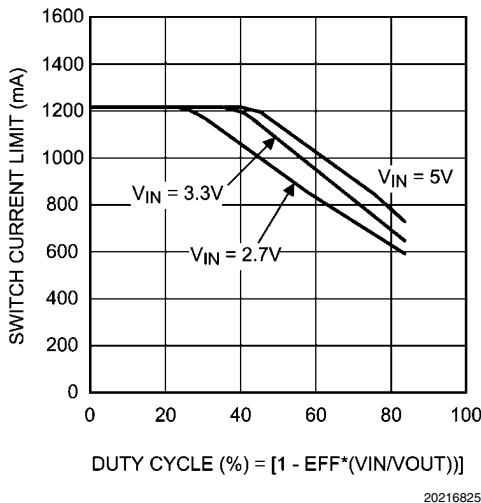

FIGURE 3. Switch Current Limit vs Duty Cycle
**Note 4:** Switch current limit is dependent on duty cycle. Limits shown are for duty cycles  $\leq 50\%$ . See Figure 3 in *Application Information – MAXIMUM SWITCH CURRENT* section.
The maximum FET switch current available before the current limiter cuts in is dependent on duty cycle of the application. This is illustrated in Figure 3 below which shows typical values of switch current as a function of effective (actual) duty cycle: